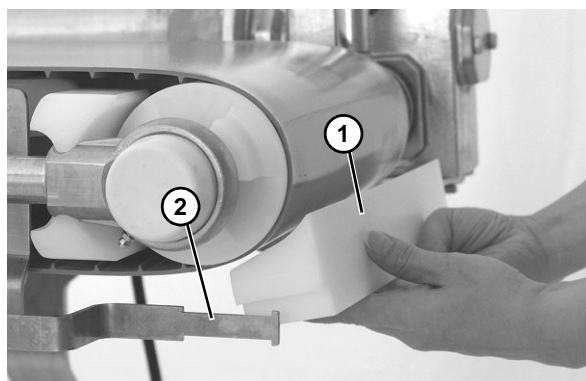
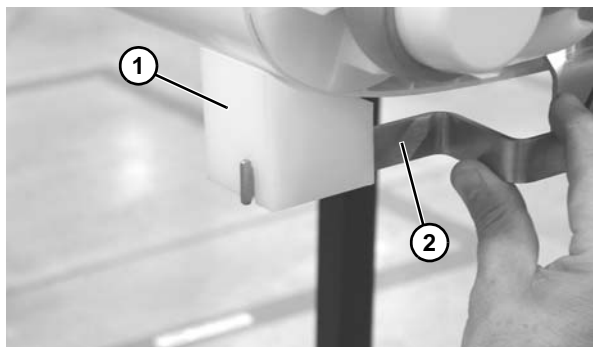

Figure 27 (Flat Belt)
Figure 28 (Cleated Belt)
2. Insert limiter (Figure 27, item 1) or (Figure 28, item 1) between support plates (Figure 27, item 2) or (Figure 28, item 2).